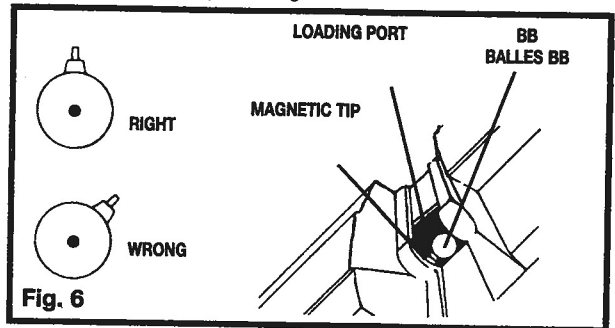

Fig. 6
**LOADING BBs - (Fig. 6):** With the bolt handle back and BBs in the magazine. RAISE the muzzle of the gun 45 degrees to 90 degrees. When raising the muzzle, be sure the front sight is pointed upward since the gun may not feed properly if it is on its side.